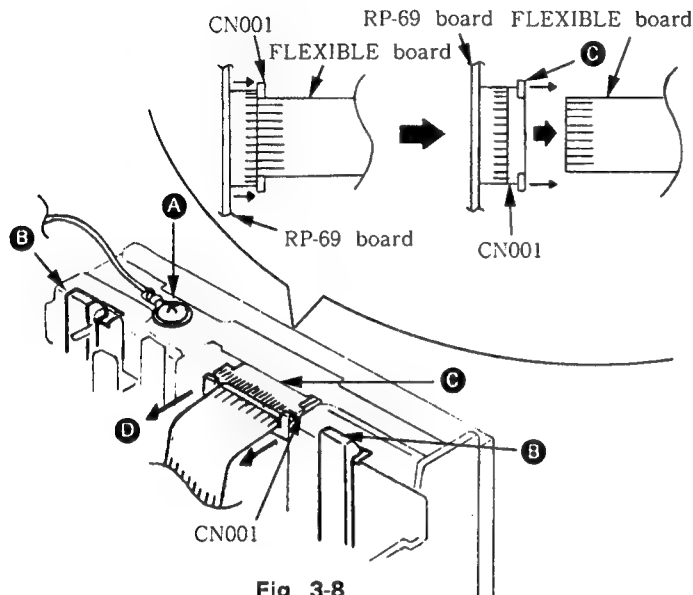

Fig. 3-8.
- 1) Remove the screw in Fig. 3-8 A
- 2) Pull out two claws of MD frame in Fig. 3-8 B.